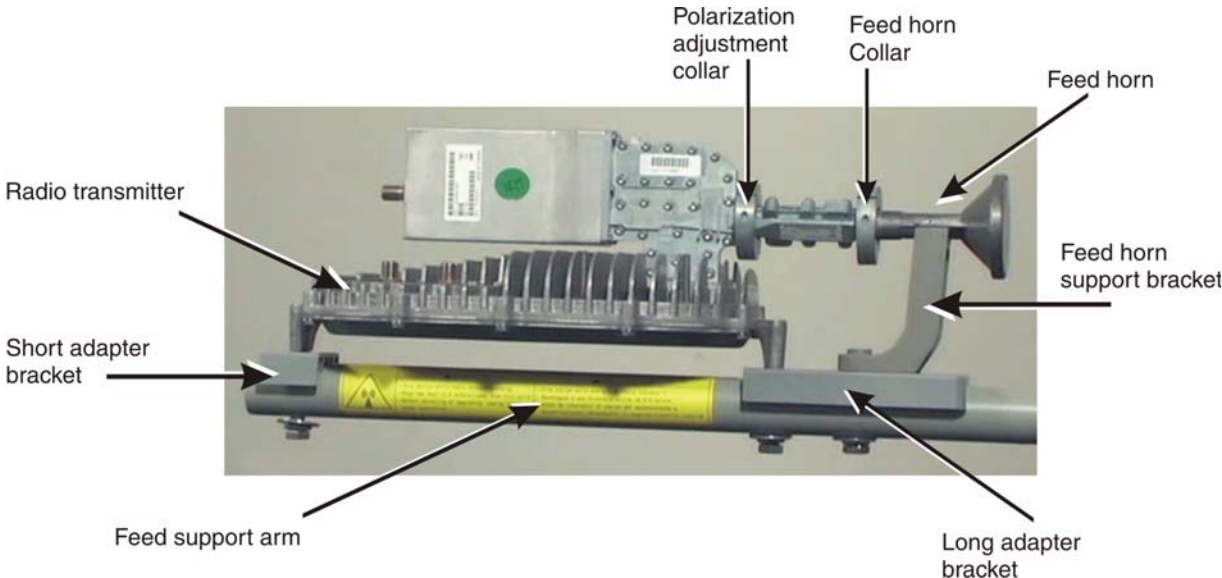

Figure 24: Radio assembly and feed horn installed
- 4. Fit the two sections of the feed horn collar around the ridge at the point where the feed horn meets the polarizer, as shown in Figure 24.